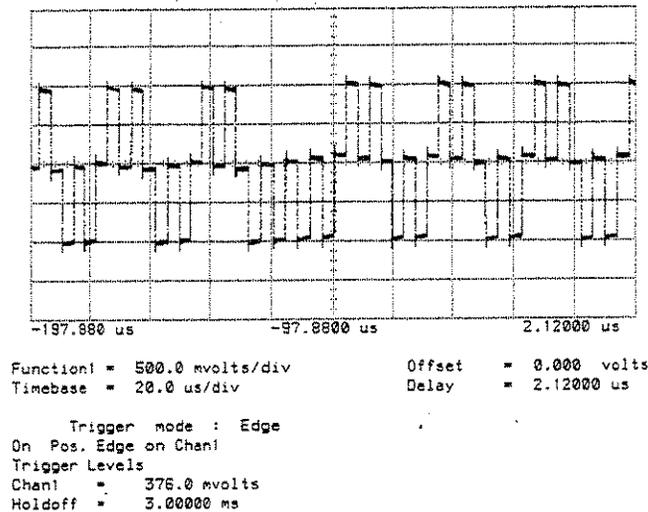

Figure 8-41 64 kbit/s Octet Timing
9. Check the Oscilloscope display is now as shown in Figure 8-41.